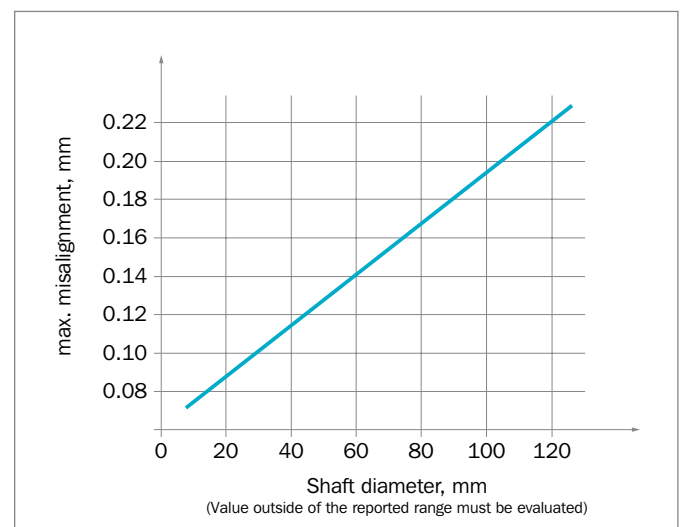

Figure 26: Shaft to bore misalignment
HP20 seals, in order to work properly, requires the value of Shaft To Bore Misalignment (STBM) to be kept below the threshold given in Figure 26.
- The maximum assembly and working misalignment must be according to Figure 26